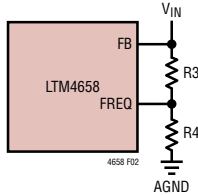

Figure 2. Phase Programming
2. The phasing of a slave phase relative to the master phase is programmed with a resistor divider on the FREQ pin (see Figure 2). Use of 1% resistors is recommended. See Table 4 for more information.